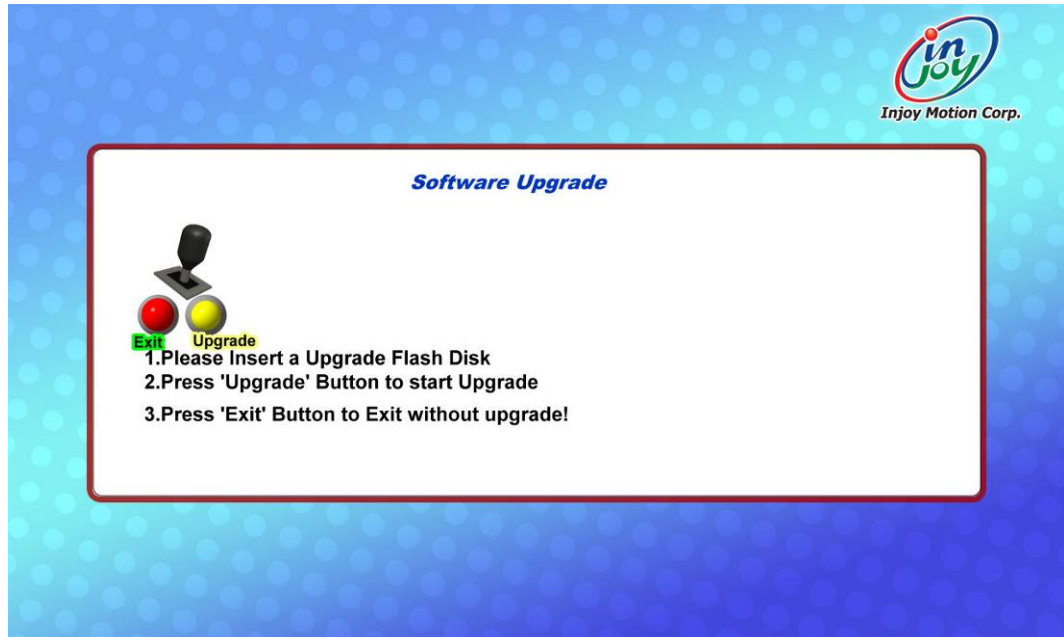
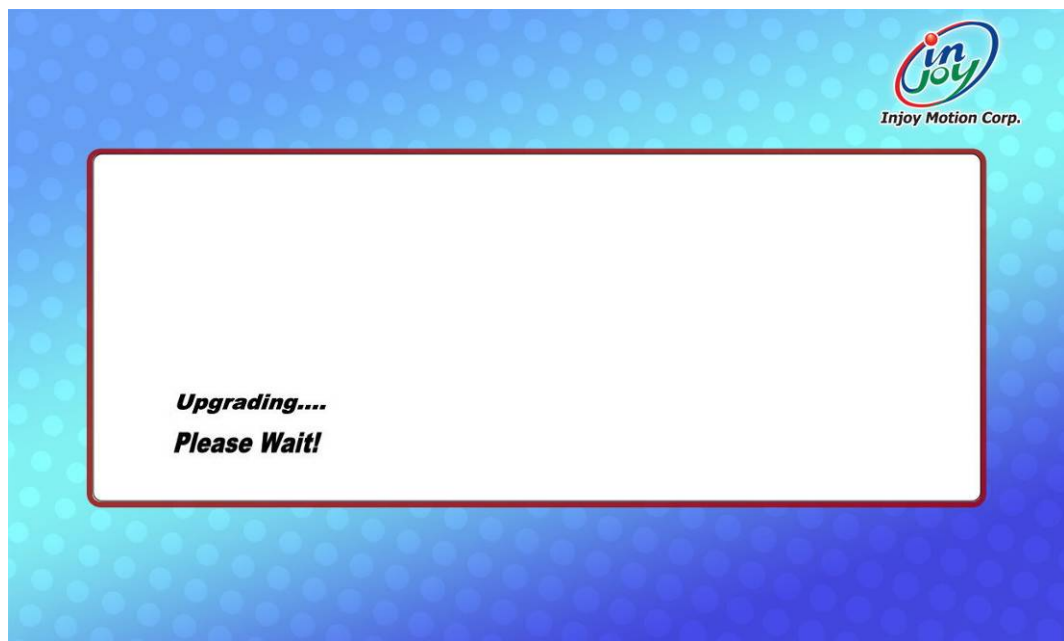

Figure 4-18 “Software Upgrade” sub-menu
Figure 4-19 “Software Upgrading” Window
5. Press the “*upgrade*” button on the panel (Figure 4-18), and your software system will begin to upgrade/download the software automatically (Figure 4-19).
6. If you wish to cancel upgrade process, press the” Exit” button (Figure 4-18) to exit “*Software Upgrade*” sub-menu.